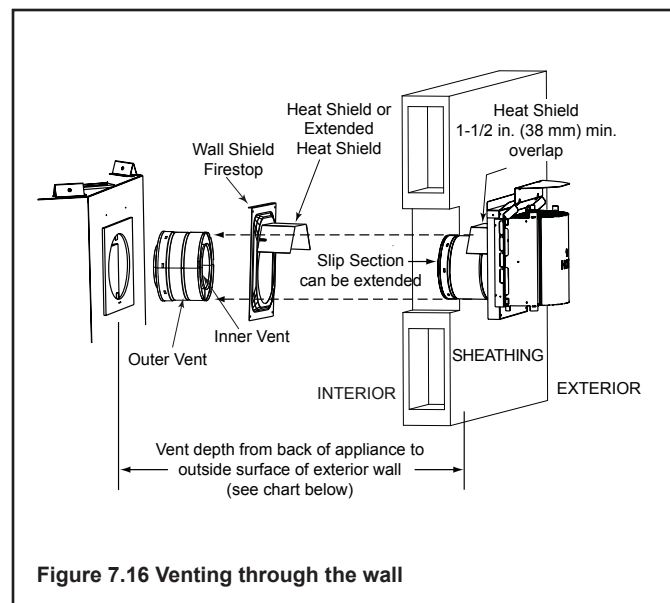

Figure 7.16 Venting through the wall
- **DO NOT** remove the heat shields attached to the wall shield firestop and the horizontal termination cap (shown in Figure 7.16).
There are two sections of the heat shield. One section is factory-attached to the wall shield firestop. The other section is factory-attached to the cap. See Figure 7.16.